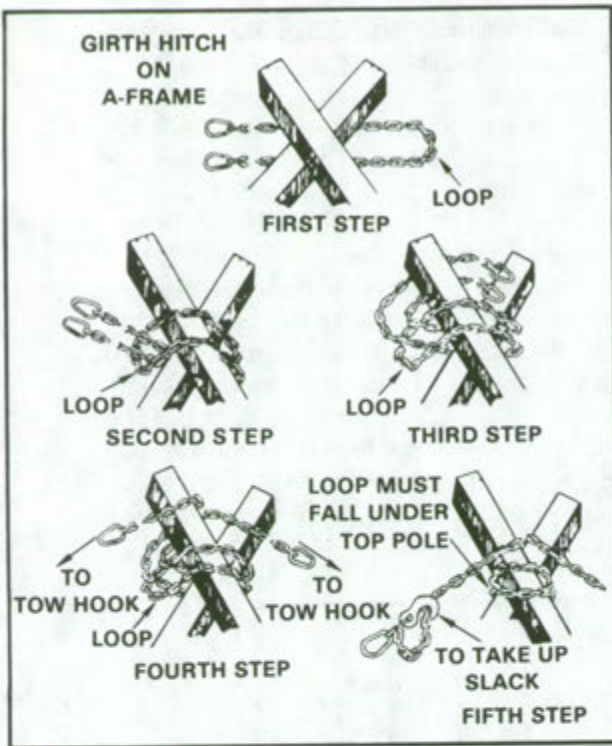
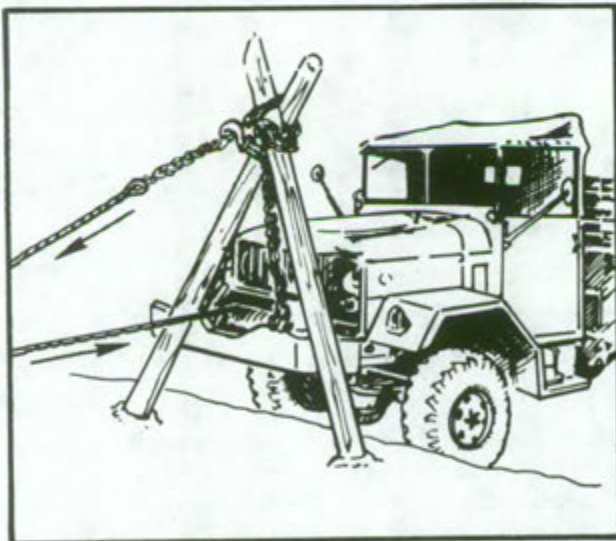

Figure 6. Tying girth hitch to A-frame.
Figure 7. Recovery of a nosed truck using an A-frame.
c. Use of an A-Frame. Frequently, a truck will become nosed in a shell hole or narrow ditch. When a truck becomes disabled in this manner, both lifting and pulling forces are required to make the recovery. The lifting force can be obtained from an A-frame. To construct an A-frame, two poles approximately 8 feet long and large enough in diameter to support the front end of the truck will be needed. The poles should be lashed together at the top by a figure 8 or girth hitch (figure 6). The lower end of the poles should be placed in the ground 10 to 12 inches deep to prevent them from sliding when power is applied. The upper end of the A-frame is laid across the hood of the vehicle and the attachment made as in figure 7. If the nose truck is equipped with a winch, the winch cable should be rigged for a 2 to 1 mechanical advantage, with the end of the cable secured to the apex of the A-frame.